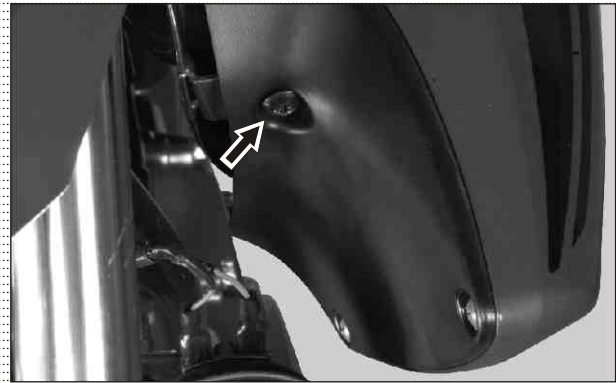

Fig. 4.1
- Loosen and remove CRR pan head screw (M6x12) mounted at inner side of cover fuel tank. (Fig. 4.1)